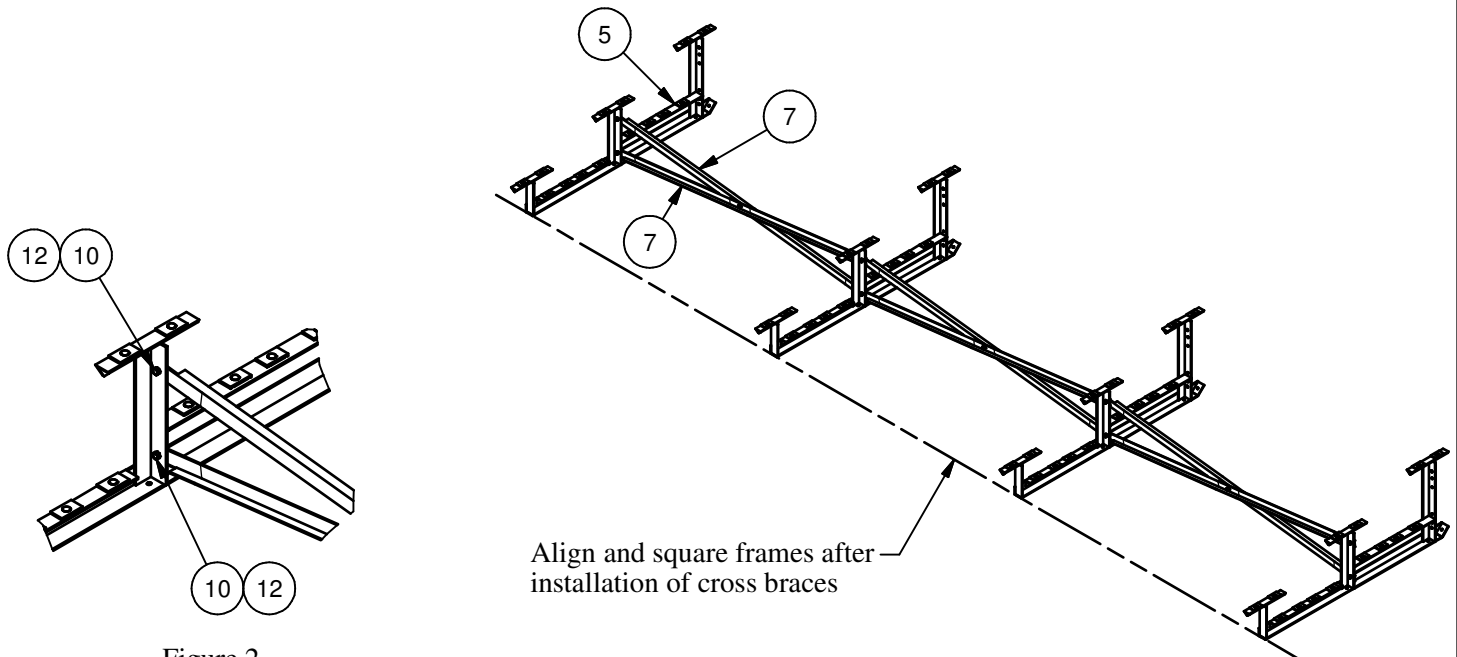

Figure 2
2. Lay out the Frame weldments approximately 6' apart. Install the brace sub-assemblies from step 1 using the 3/8" x 1" hex bolts and 3/8" whizlock nuts as shown in Figure 2.